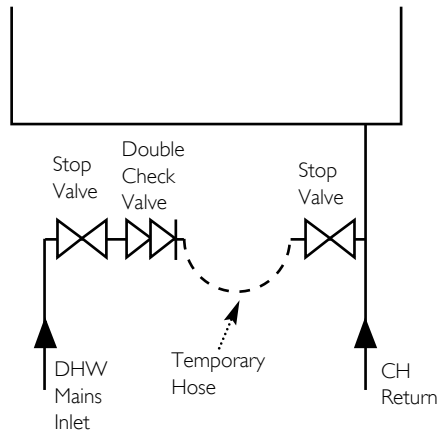

Fig. 6
6.5 System Filling and Pressurising (Fig. 6)